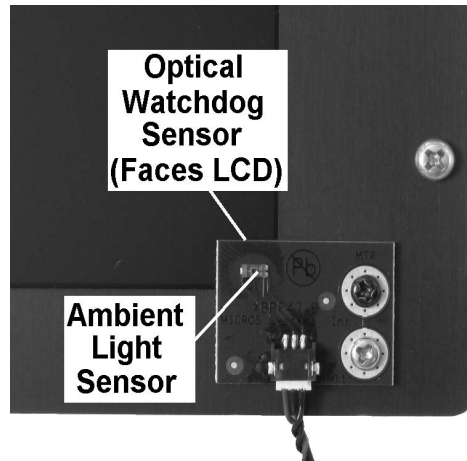

Figure 2-11: Dual Light Sensor Board Details
- o Dual Light Sensor Board - Contains two sensors, the Ambient Light Sensor and the Optical Watchdog sensor. It is mounted at the lower right corner of the LCD. An illustration of the board is shown in Figure 2-11.